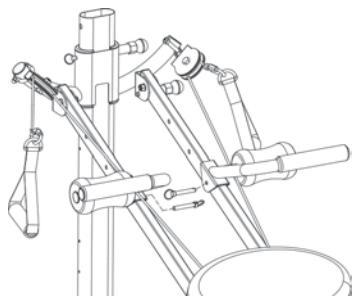

Fig. 2
3. Insert the 2 Short Hitch Pins through the holes on the Wing Attachment Brackets and the hole on the Rails, as shown in Fig. 2.
3. Insert the 2 Short Hitch Pins through the holes on the Tri-Grip Shaper Bar Brackets and the hole on the Rails as Shown in Figure 2. Make sure to securely attach each Tri-Grip Shaper Bar to each side of the frame before using.